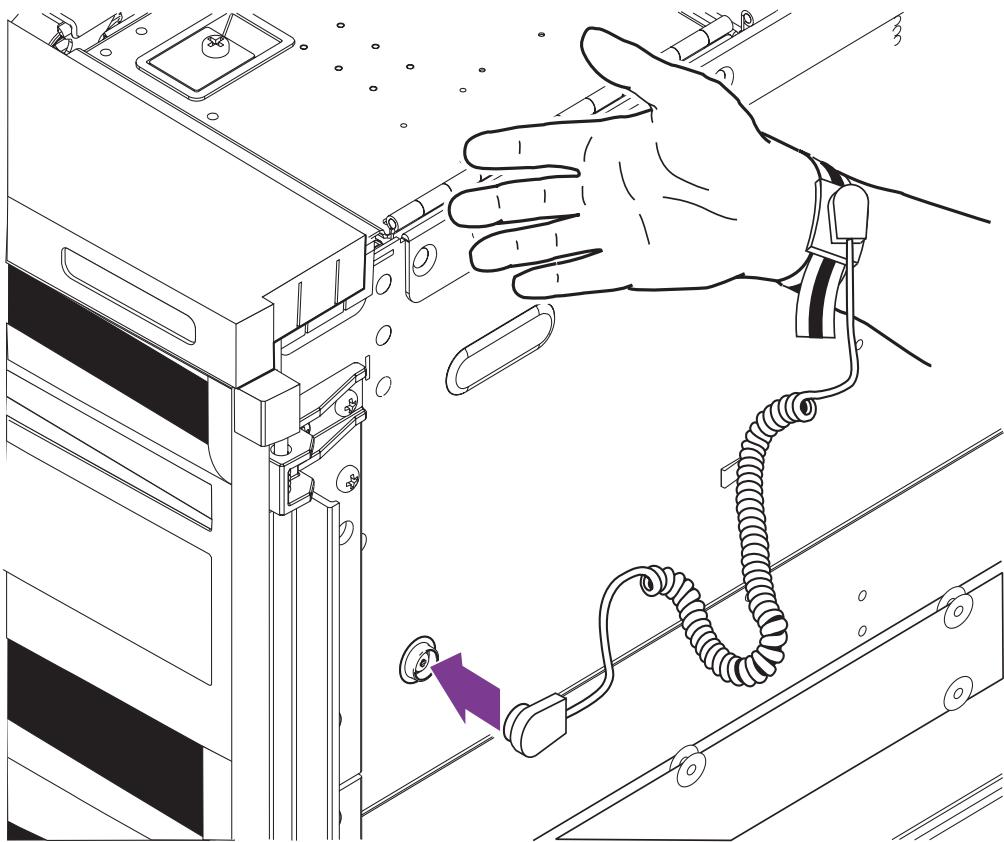
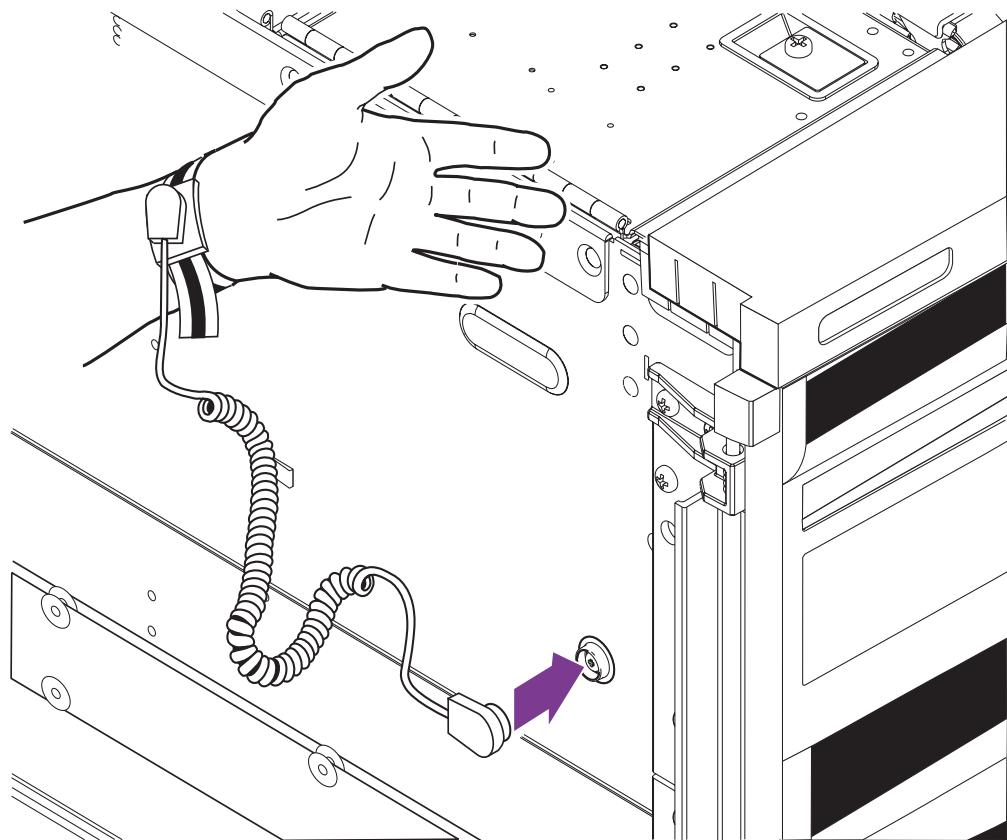

FIGURE 2 Attaching the Wrist Strap – Right-Hand Side
FIGURE 3 Attaching the Antistatic Wrist Strap – Left-Hand Side
- To attach the antistatic wrist strap to the chassis, connect the strap as shown in FIGURE 2 or FIGURE 3.